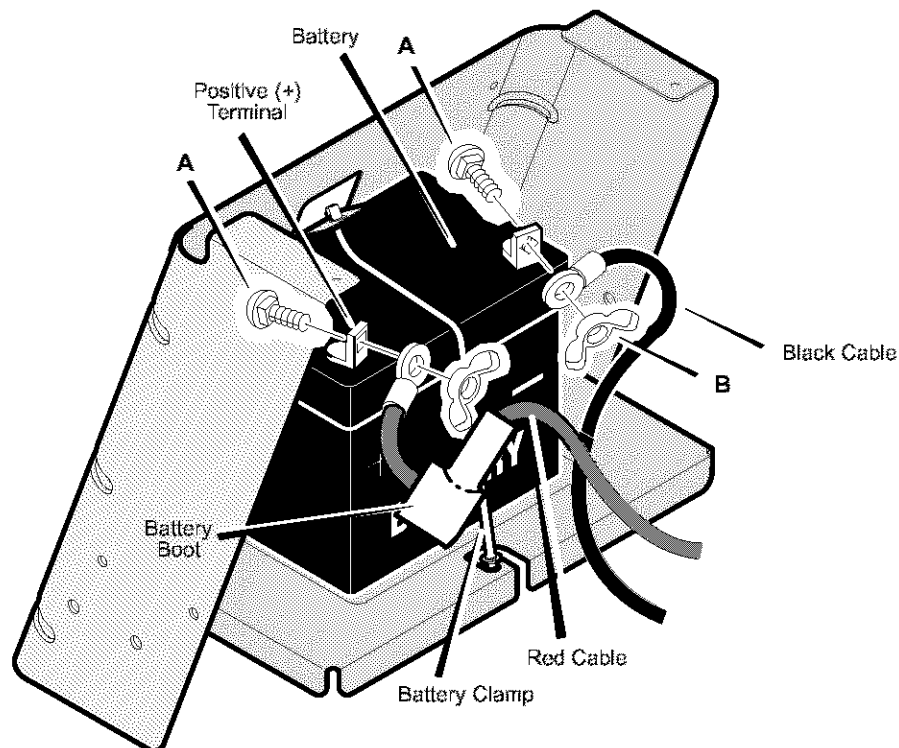

Figure 17
1. Disconnect the **black cable** from the negative (-) terminal (Figure 17).